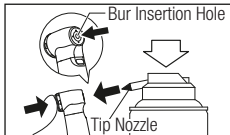

Fig. 16
- 2) Shake the can three or four times, then gently press in the push button to directly spray into the bur insertion hole (Fig. 16).